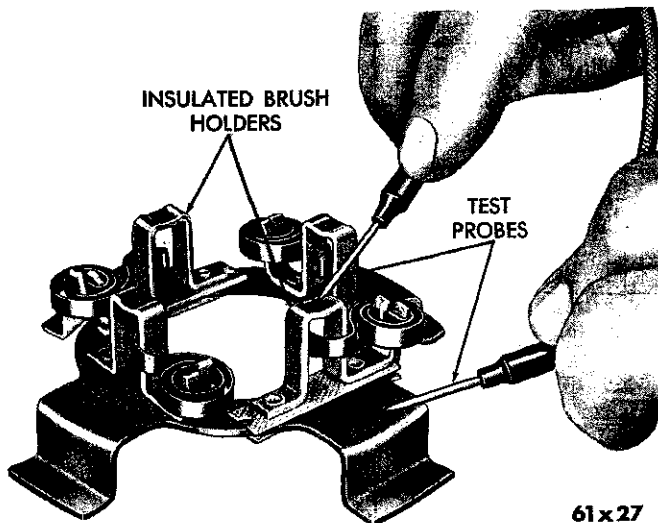

Fig. 12—Testing the Insulated Brush Holder for Ground
(7) Touch each of the brush holders with one test probe, while holding the other test probe against the brush ring. Two brush holders that are 180 degrees apart should cause the test lamp to light as they are intentionally grounded. The other two brush holders (Fig. 12) should not cause the lamp to light when tested, as they are insulated. If the insulated brush holders cause the lamp to light when tested, it indicates that the brush holders on the brush ring are grounded. Replace the brush ring assembly if the brush holders are grounded.